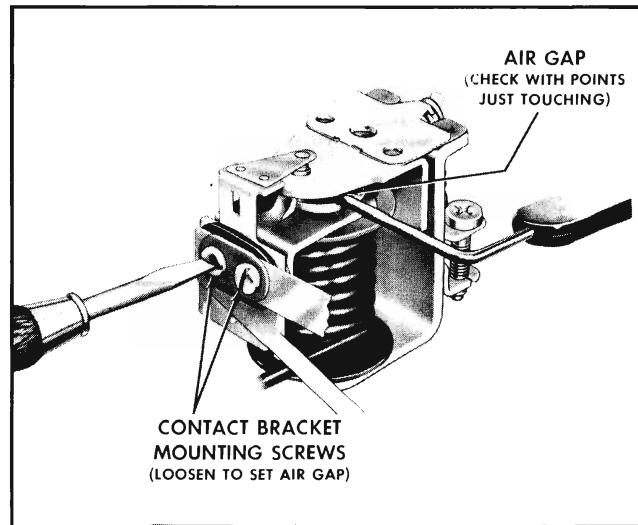

Fig. 11-52 Current Regulator Air Gap Adjustment on Double Contact Voltage Regulator
1. With contact points just touching, measure air gap between armature and winding core as shown in Fig. 11-52. Air gap should be .075".